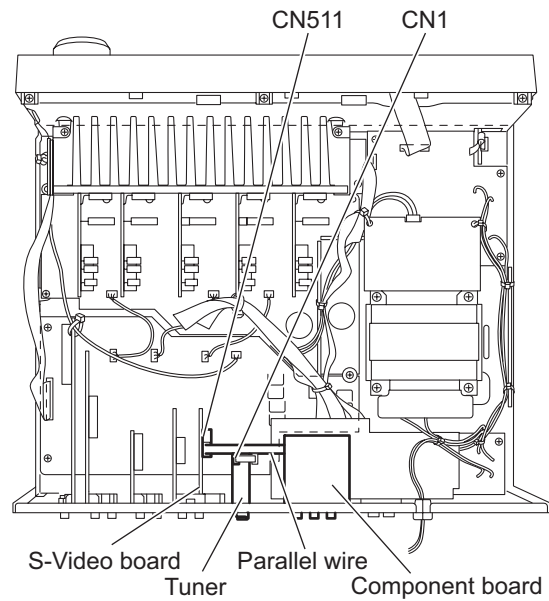

Fig.5
3.4 Removing the component board and tuner unit (See Figs.5 and 6)
- (1) From the top side of the main body, disconnect the parallel wire from the connector CN511 on the S-Video board. (See Fig.5)
- (3) From the top side of the main body, disconnect the card wire from the connector CN1 on the tuner unit. (See Fig.5)